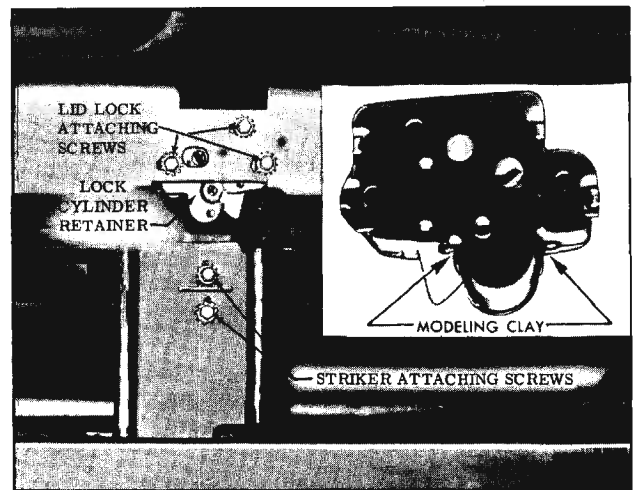

Fig. 16-303 Deck Lid Lock and Striker
2. Remove rear compartment lock attaching screws (Fig. 16-303) and remove lock.
1. Mark a line on striker to indicate elevation of striker in relation to striker support; then, remove striker attaching bolts and remove striker. (Fig. 16-303)
1. Place a small amount of modeling clay or body caulking compound on frame of lock at both sides of the lock bolt. (Fig. 16-303) Close lid with moderate force.
2. Open lid and check amount of engagement of striker with lock frame, as indicated by the compression of the clay. The striker impressions in the clay should be even on both sides of the lock frame. (Fig. 16-303) Where required, loosen striker attaching screws; adjust striker sideways or up or down to obtain proper engagement, then tighten screws.